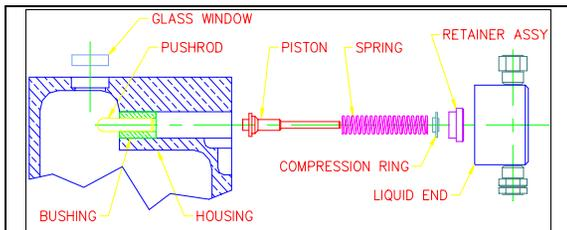

Figure 1: Pump Assembly
3. Remove liquid end from pump as follows: Unscrew the two socket head bolts while holding the liquid end against the pump housing. Pull the liquid end straight out from the pump housing, in line with the axis of the piston. If you cock or tilt the liquid end, you may break the piston. See Figure 1.
13. Reinstall the liquid end on the pump. See Figure 1.